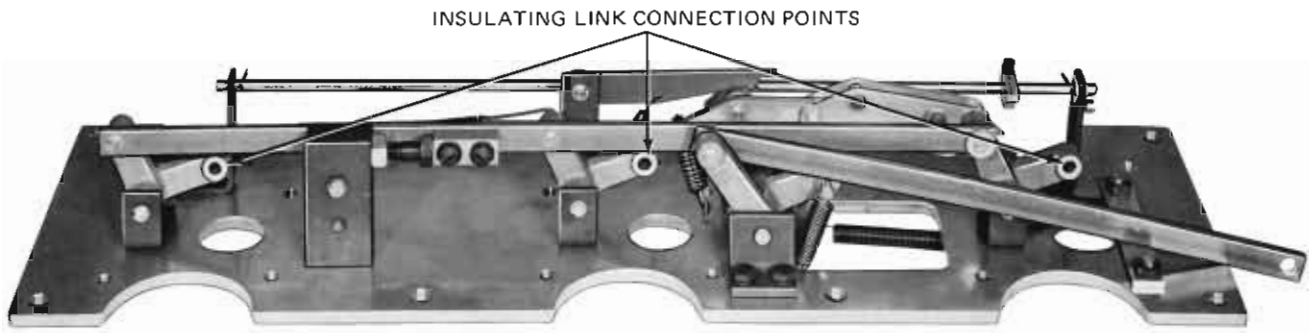

Figure 16
3. Disconnect insulating links that operate moving contacts. Head mechanism at this point is shown in Figures 16 and 17.